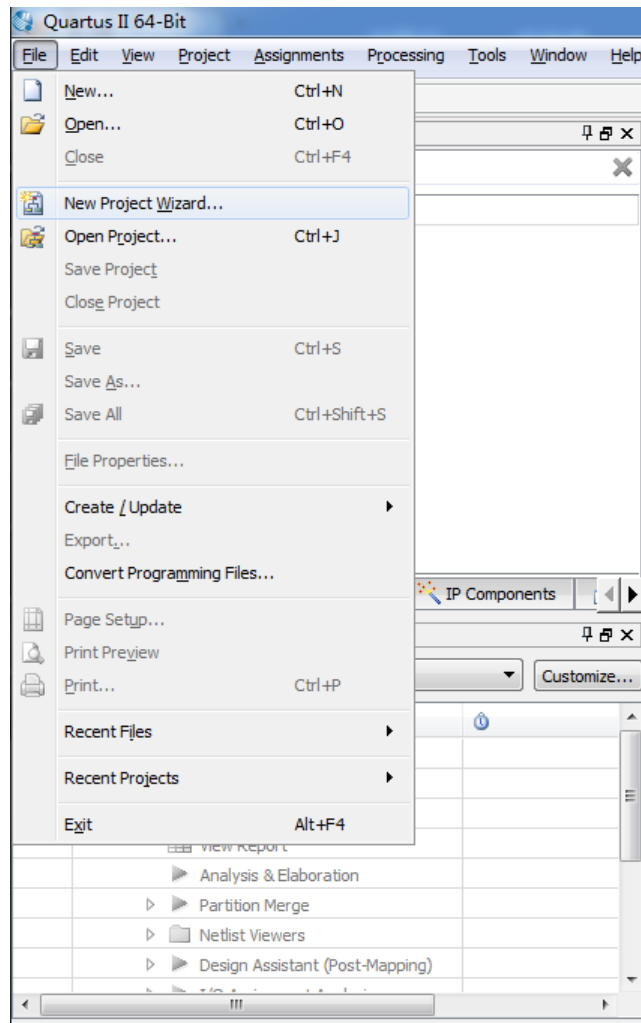
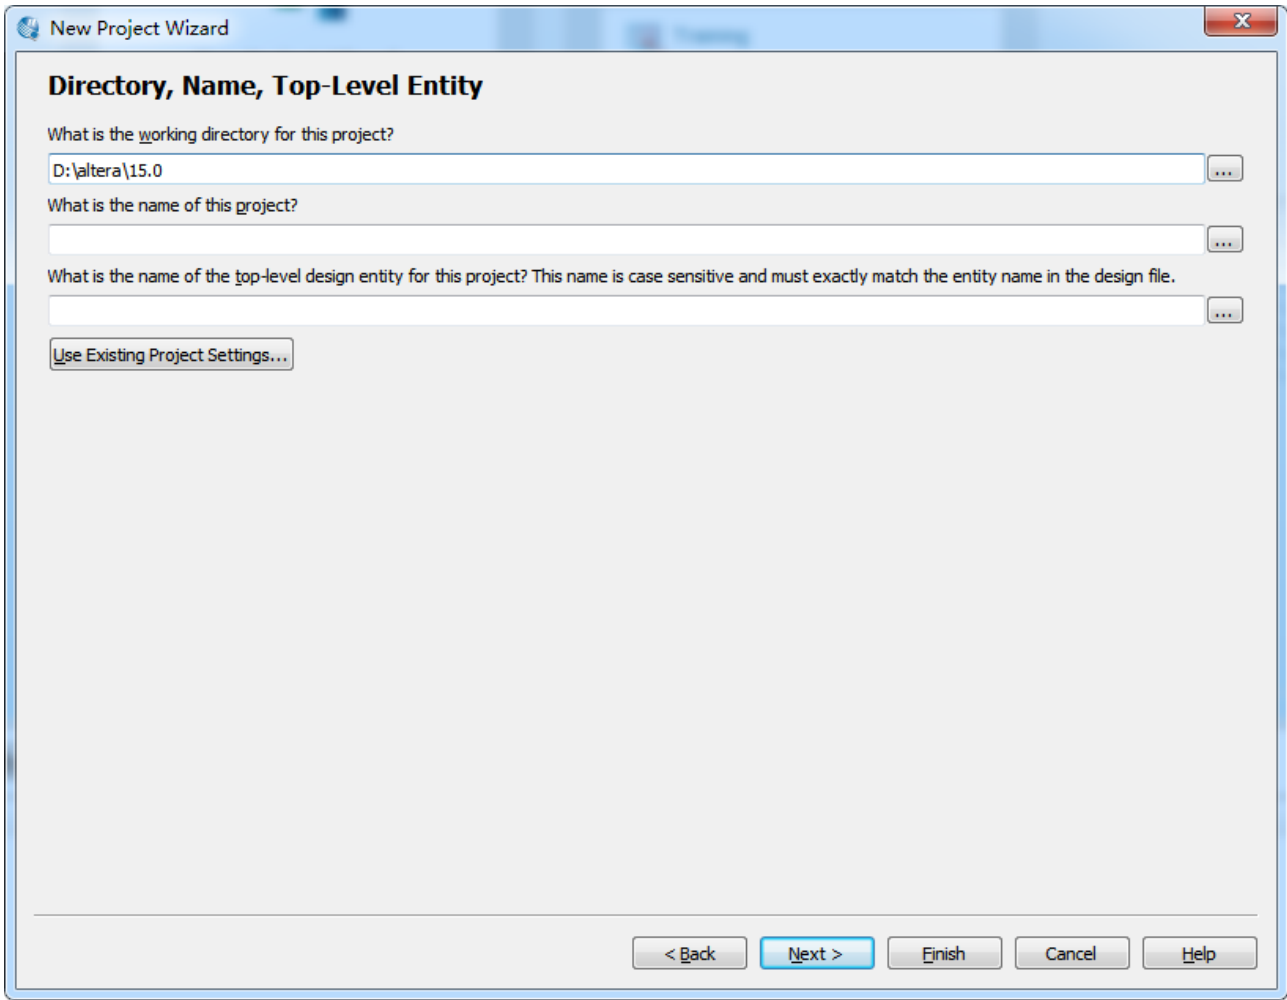

Figure 1-1 Select File -> New Project Wizard in Quartus II
Figure 1-2 First page of the New Project Wizard
1. Launch Quartus II and select **File->New** Project Wizard to create a new project, as shown in **Figure 1-1** and **Figure 1-2**.